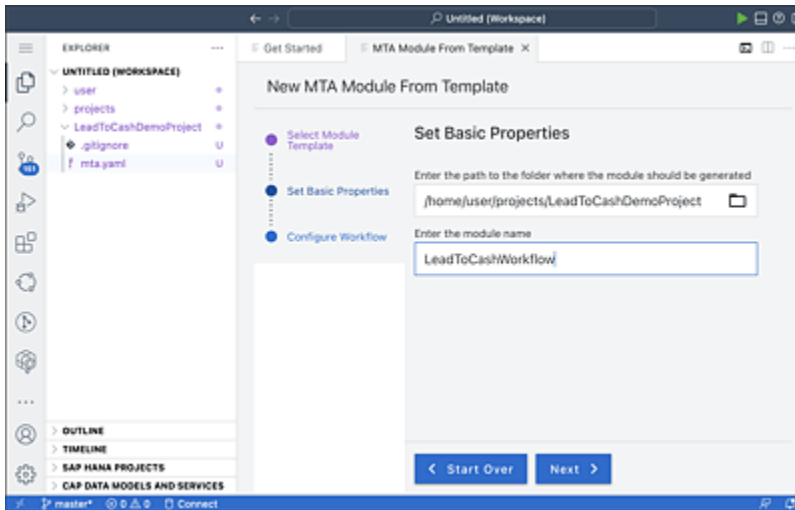

Figure 18.5 Name Your Workflow Module
6. On the screen shown in Figure 18.5, provide the path in the **Enter the path to the folder where the module should be generated** field and the workflow module name in the **Enter the module name** field. Click **Next** to continue to the next screen.